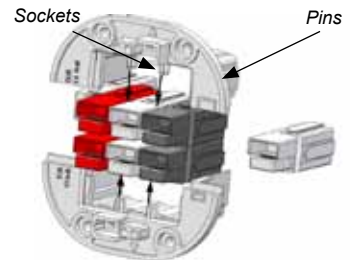

Figure 7
- Snap the crimped signal contacts into the appropriate holes in the back of the holder halves (See Figure 7). A tactile snap will be felt when contact is latched.